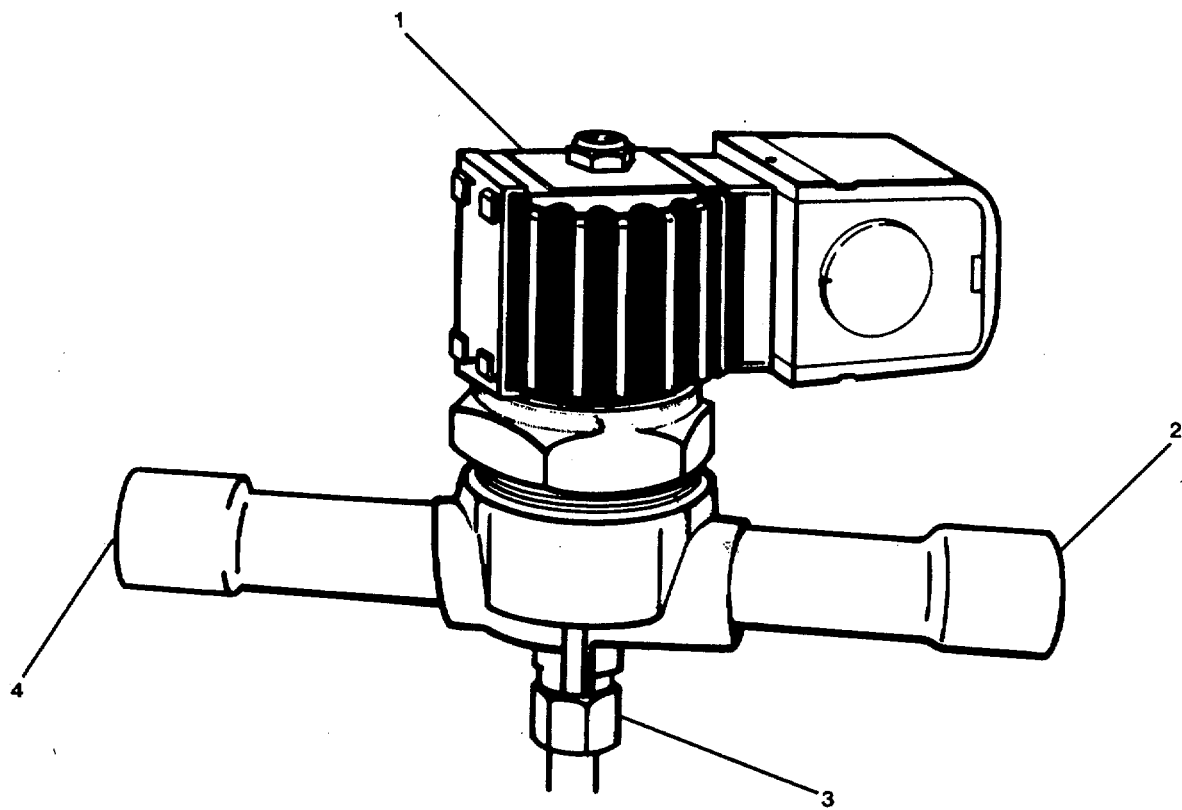

Figure 4-7. Liquid Line Valve (High Pressure Solenoid).
- (6) Remove "Out of Service" tag from circuit.
- d. Replace liquid line valve in the liquid line portion of high side piping on A/C-2 (1, FIGURE 4-7) as follows: